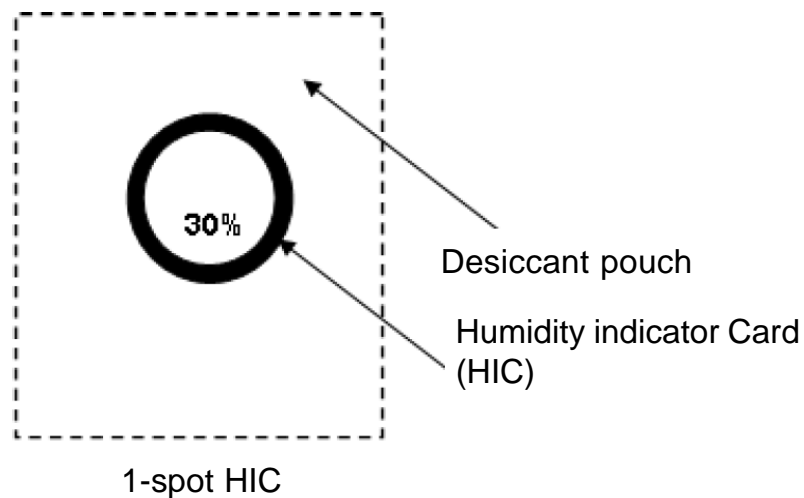

Figure 3-2-1. An example of a HIC
- (8) If the shelf life of the sealed MBB is exceeded, or if the 30% spot of the humidity indicator card (HIC) is pink when the MBB is opened even within the shelf life, bake the devices as stated in Table 3-2-1. The floor life (i.e. the allowable time from opening the MBB to the solder process without baking), if the devices removed from the MBB have been stored at a temperature range from 5°C to 30°C and a relative humidity of 60%RH or less, is printed on the MBB. If the floor life is exceeded, or if the devices removed from the MBB have been stored in a high humidity environment or an environment where condensation can occur, bake the devices before the solder process.
- (9) Protect the devices from ESD damage during baking process.
- (10) The HIC detects an approximate value of the ambient relative humidity at a normal temperature of 25°C. Figure 3-2-1 shows an example of a 1 spot HIC.
Figure 3-2-1 shows a 1-point indicator.